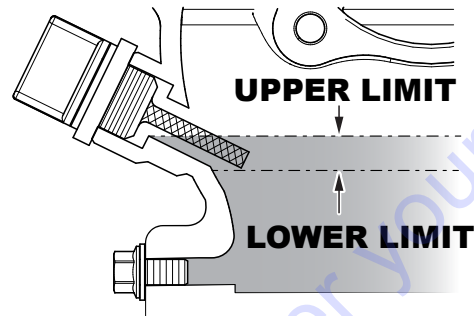

Figure 6. Engine Oil Inspection
4. Check the oil level on the dipstick (Figure 6). If the oil level is low, fill to the edge of the oil filler hole with the recommended oil type (Table 6). Maximum oil capacity is 1.8 quarts (1.7 liters).